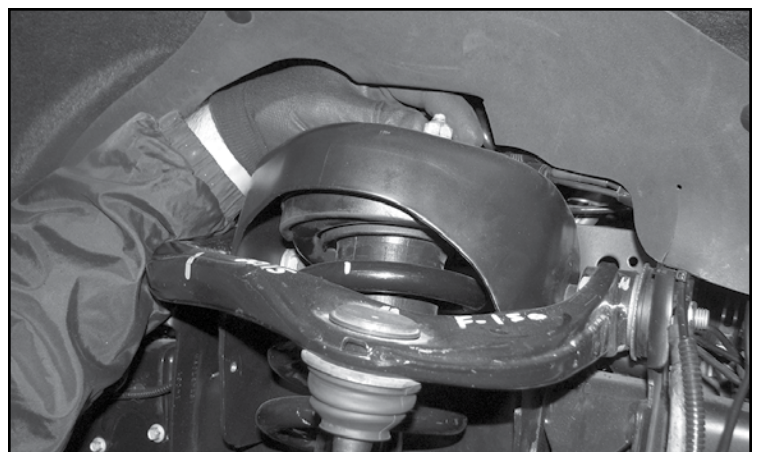

**FIGURE 28 - STEP 29**
29. Using a spring compressor, compress the factory spring and remove the top coilover center nut and cap. Next install the factory spring onto the new Fabtech coilover using the new lower isolator and re-using the factory top cap and hardware. **SEE FIGURE 28**